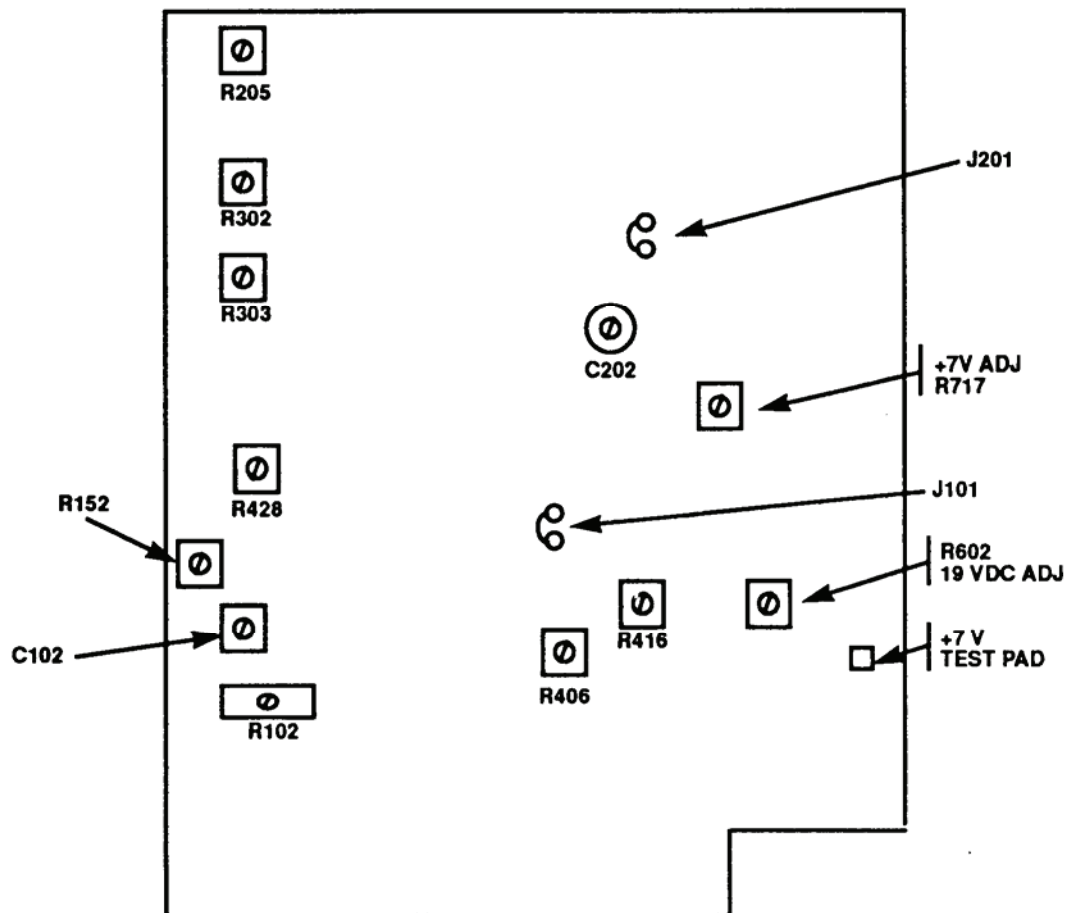

Figure 2. Adjustment locations, model 3466A - top view.
- (1) Set calibrator to **STANDBY**.
- (2) Press TI **RANGE 20** pushbutton.
- (3) Set calibrator for a 19 V dc output. Adjust R602 19 VDC ADJ (fig. 2) for a 19.000 V TI indication (R).
(1) Adjust R416 (fig. 2) for a TI indication equal to calibrator output display rounded to TI digits of resolution.
(2) Adjust R406 (fig. 2) for a TI indication equal to calibrator output display rounded to TI digits of resolution.
(3) Adjust R428 (fig. 2) for a TI indication equal to calibrator output display rounded to TI digits of resolution.
- (3) Set calibrator for a 19 V, 200 Hz output. Adjust R303 (fig. 2) for a 19.000 TI indication (R).
- (4) Set calibrator for a 1.9 V, 200 Hz output. Adjust R302 (fig. 2) for a 1.900 TI indication (R).
- (5) Repeat (3) and (4) above for best compromise.
- (6) Set calibrator for a 19 V, 10 kHz output. Adjust R102 (fig. 2) for a 19.000 TI indication (R).
- (7) Set calibrator for a 1.9 V, 10 kHz output.
- (8) Press TI **RANGE 2** pushbutton. Adjust C102 (fig. 2) for a 1.9000 TI indication (R).
- (9) Set calibrator for a 1.9 V, 100 kHz output. Record TI indication.
- (10) Press TI **RANGE 20** pushbutton.
- (11) Set calibrator for a 19 V, 100 kHz output. Adjust C202 (fig. 2) for a TI indication numerically the same as recorded in (9) above (R).
- (12) Set calibrator for a 1.9 V, 100 kHz output.
- (13) Press TI **RANGE 2** pushbutton and record TI indication.
- (14) Repeat (10) through (13) above until numerical indications are the same, or best compromise.
- a.** Measure voltage at +7V TEST PAD (fig. 2) with multimeter. If required, adjust +7V ADJ R717 (fig. 2) for a multimeter indication between 6.99 and 7.01 V dc (R).
- e.** Connect multimeter to J101 (fig. 2). Adjust R152 (fig. 2) for a multimeter indication of $0 \pm 100 \mu$ V (R).
- f.** Connect multimeter to J201 (fig. 2). Adjust R205 (fig. 2) for a multimeter indication of $0 \pm 200 \mu$ V (R).